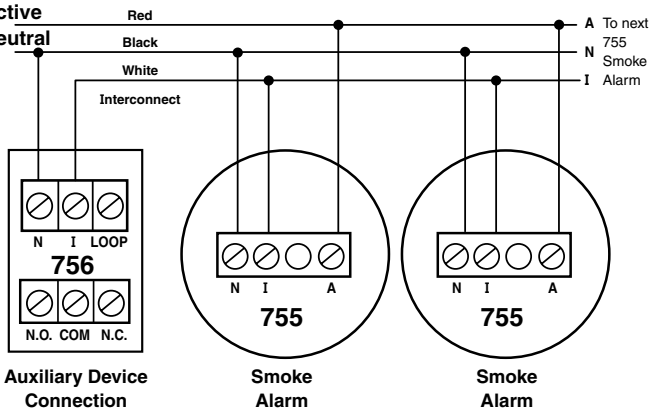

*Figure 2* Connection to a single 755 Smoke Alarm
- Figure 2 illustrates the wiring diagram for connection of the 756 Isolation Unit to a single 755 Smoke Alarm. For connecting the Isolation Unit to any other type or model of Smoke Alarm please consult your nearest Clipsal representative.